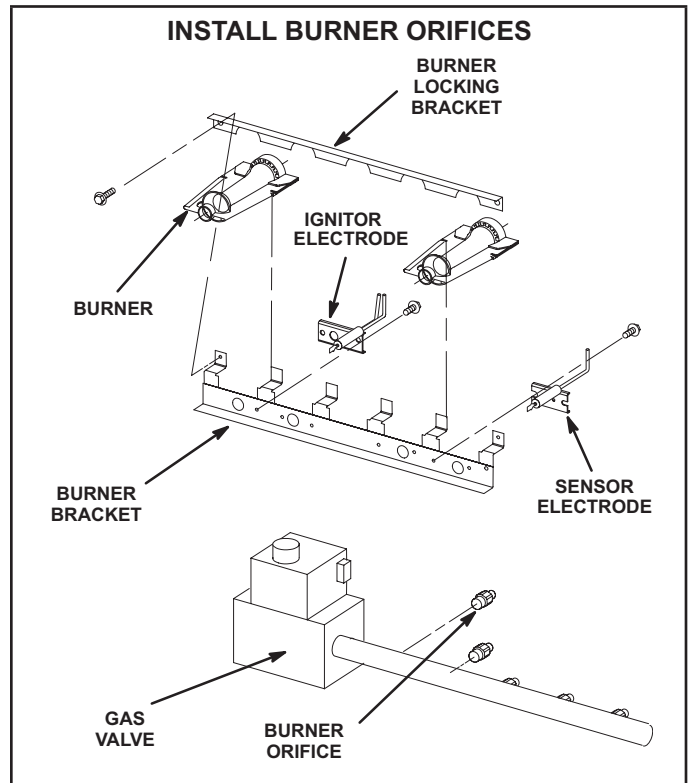

Figure 1
- 4 - Remove existing burner orifices. Apply pipe thread compound to threads of orifices provided in kit. Install orifices in manifold. See figure 1.